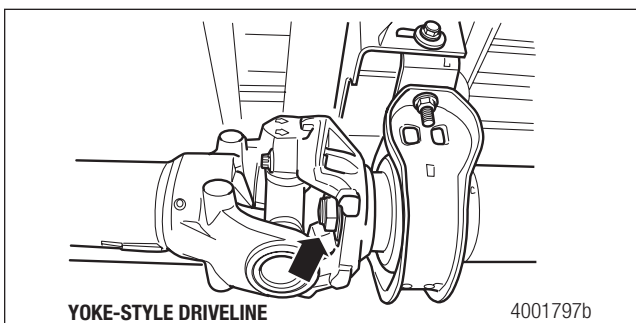
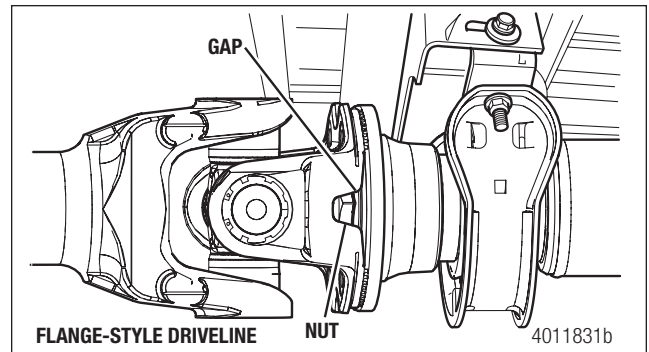

Figure 4.7
Figure 4.8
1. Inspect all center bearing and end yoke or flange midship nuts for gaps or looseness between the mating surfaces. Figure 4.7 and Figure 4.8.